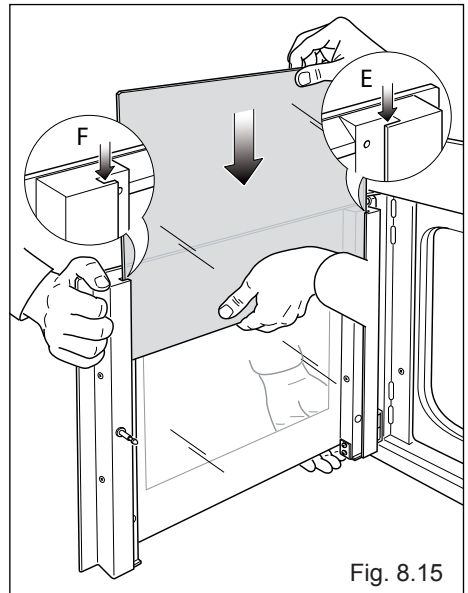
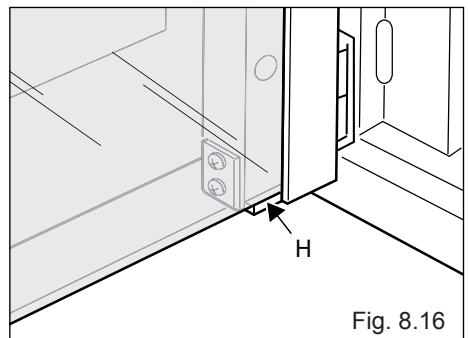

Fig. 8.15
Fig. 8.16
- Whilst one person holds the door still, a second person should insert the inner pane in the left “E” and right “F” side guides (fig. 8.15) and gently let it slide up to the retainers “H” (fig. 8.16). Forcible replacement of the door glass may lead to damage of the door hinges.